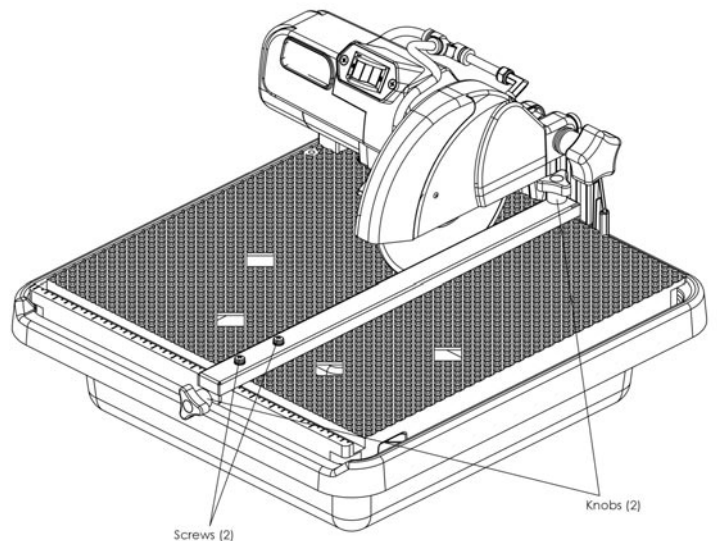

Figure 7
1. Slightly loosen the screws (2) on the rip guide. (see figure 7)
2. Loosen the knobs (2) on the rip guide. (see figure 7)
4. Tighten the screws (2) on the rip guide.